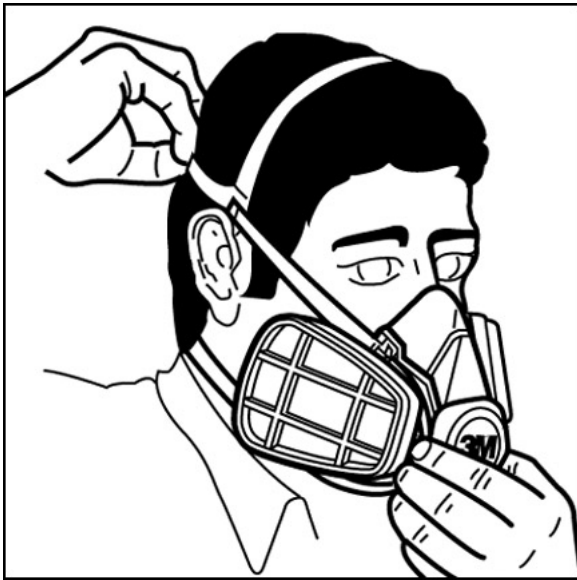

Fig. 1
1. Place the respirator over the mouth and nose, then pull the head harness over the crown of the head. (Fig. 1.)